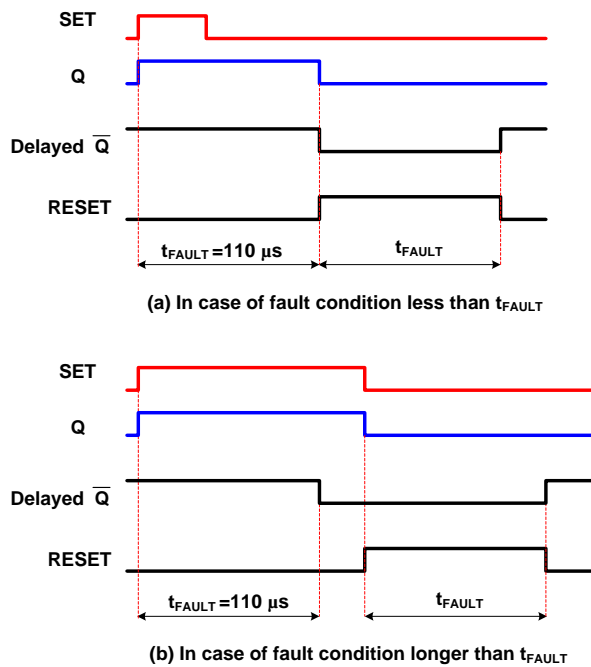

Figure 45. Timing Definition of Fault-Out
If fault condition time is less than fault clear time (Case a), the pulse width of fault-out (FO) is 110 μ s. If longer (case-b), pulse width of fault-out same with fault condition time as shown in Figure 45.